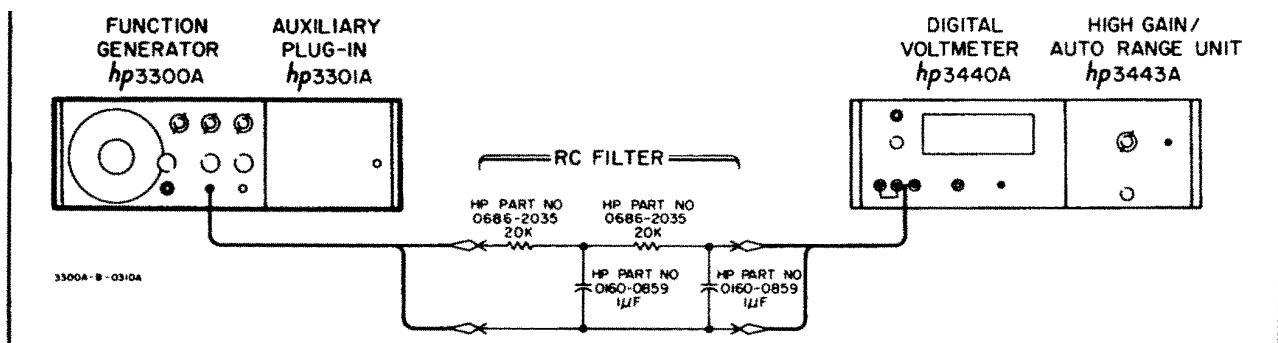

Figure 5-6. DC Output Level Adjust Test Setup
- a. Test equipment required: DC Voltmeter (-hp- Model 3440A) and RC Filter see Figure 5-6, page 5-5.
- b. Connect CHANNEL A OUTPUT to DC Voltmeter through a filter as shown in Figure 5-6.